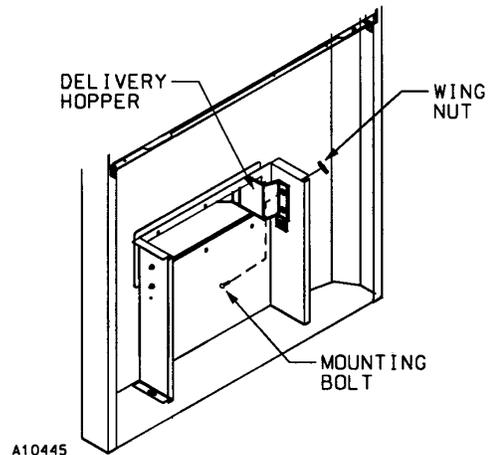

Figure 2. Install Delivery Hopper
5. The Delivery Hopper is taped inside the bottom area of the door. Remove and assemble as shown in Figure 2. Secure with the four (4) bolts and wing nuts provided.